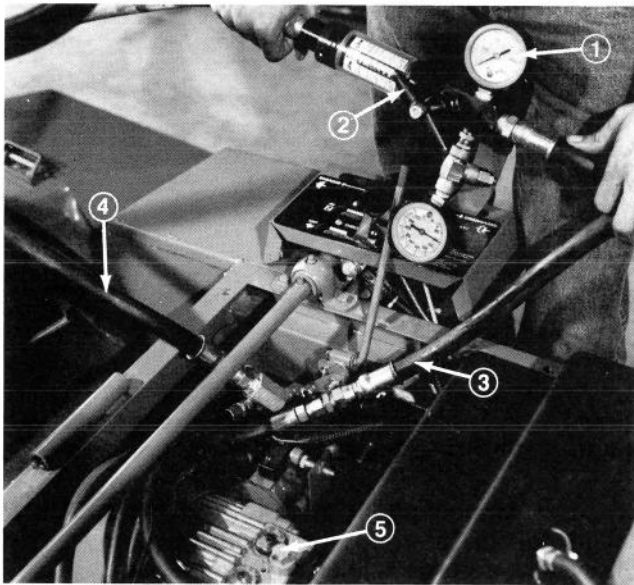

Figure 74
1. Remove hydraulic oil filter from mounting head (Fig. 74). Dispose of the filter properly.
3. Remove seat, seat support cover and seat support and remove line from top of pump housing to lift valve from lift valve fitting (Fig. 74).
4. Install hydraulic inlet hose of test gauge into line from transmission and test gauge return line into lift valve fitting (Fig. 74).
7. Increase engine speed to 3200 rpm - full throttle and watch flow and pressure gauges. Slowly close load valve until flow gauge reads one (1) GPM (0.063 L/s). Pressure reading at one (1) GPM (0.063 L/s) should not be lower than 500 psi (3447.5 kPa). If one (1) GPM or a minimum of 500 psi (3447.5 kPa) cannot be achieved, remove implement relief valve and examine for contamination or broken parts (Fig. 74). If no contamination or damage is evident, add one shim to assembly and repeat test.
Apply a liberal amount of No. 2 General Purpose Lithium Base Grease to the two by-pass valve pins located on top of the transmission to prevent corrosion build-up which could lock the pins into the by-pass position and cause internal transmission failure (Fig. 74).